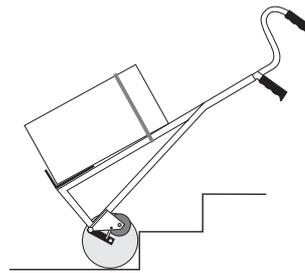

FIGURE 28
2. Push the up/down switch to "UP" initiating the climbing process. The motor and the lifting levers begin to rotate and uplift the frame plus load (see Figures 28 and 29).